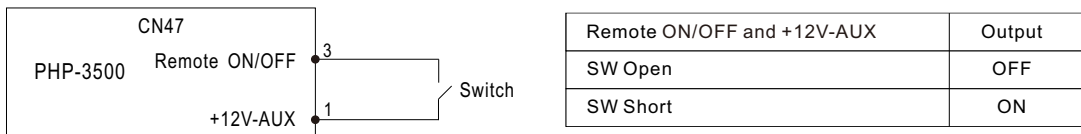

Figure 3-3 Connection of Remote Control
- ⊙ Built-in remote ON/OFF control circuit, refer to Figure 3-3 for the control method.